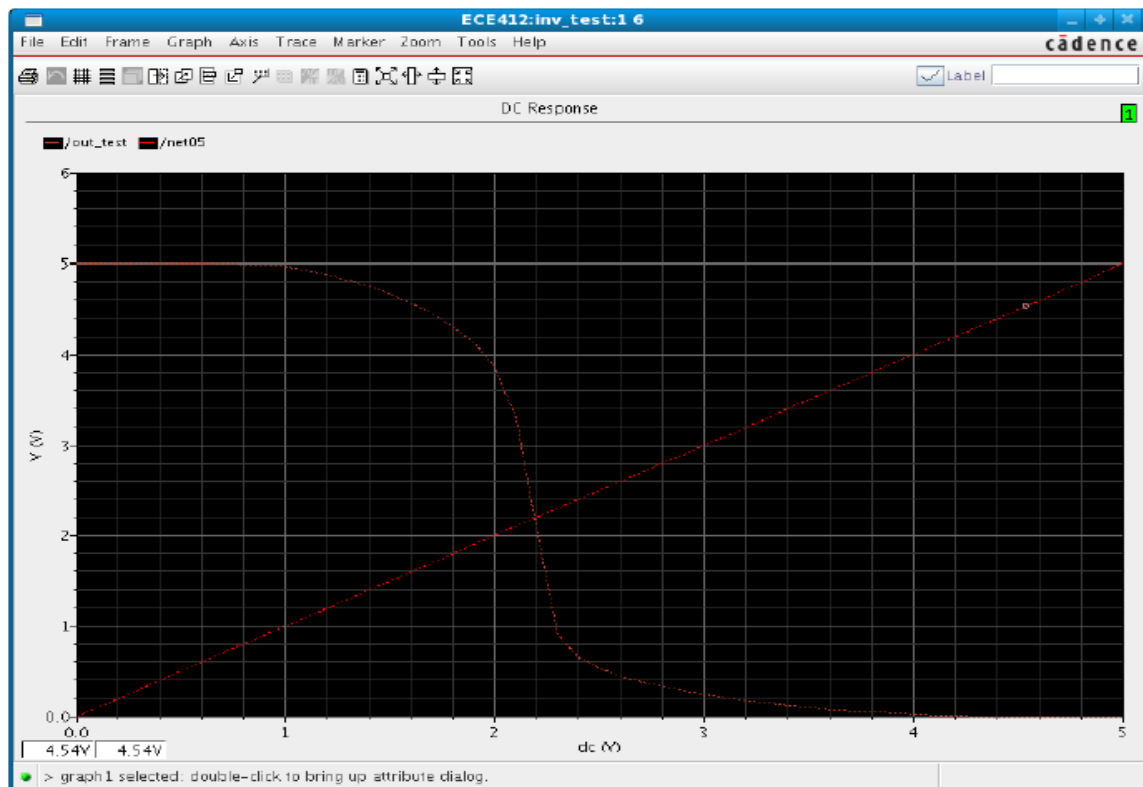

Figure 7: Inverter DC analysis
4. Start the simulation by clicking on the green play button. The output should look like figure 7. We need to calculate the crossing point between the input and the output. This point will be used later in AC analysis.